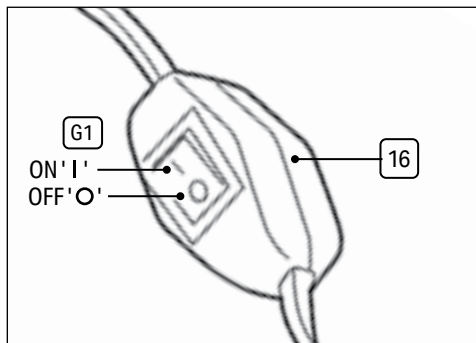

Fig. 13
7.3 Connect Remote Switch to Pump Power Cord (Fig.13)